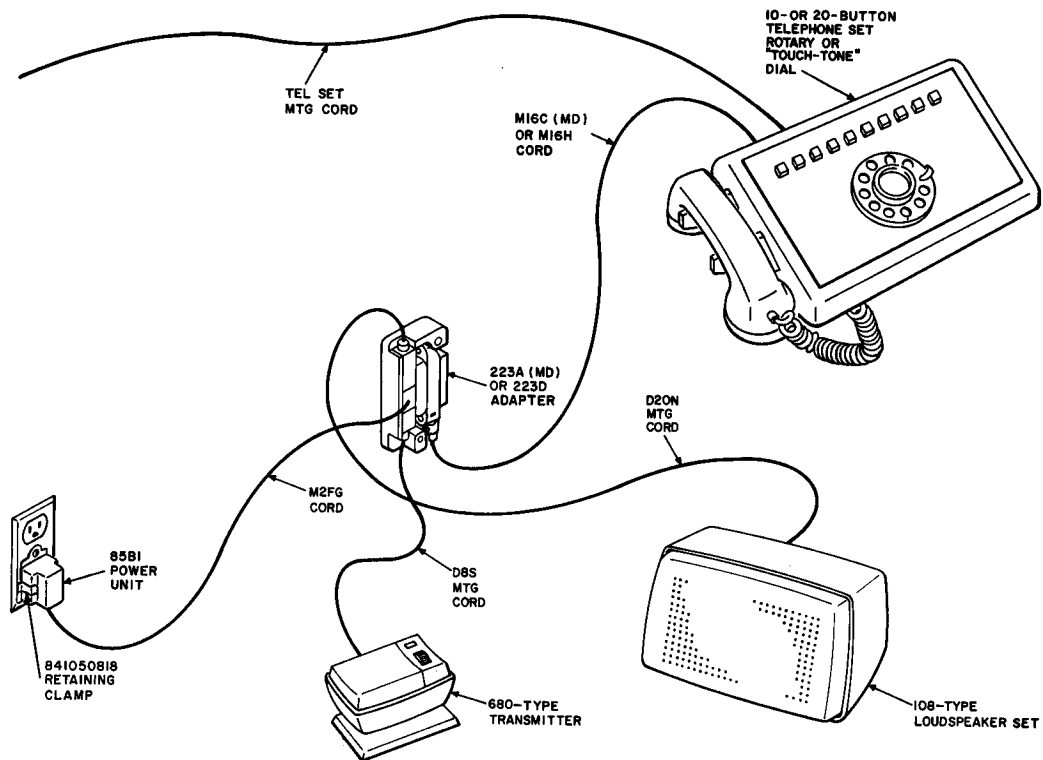

Fig. 1—4A Speakerphone System Arrangement, 10- or 20-Button Telephone Set
**2.07** Power can be provided by making connections as shown in Fig. 1 and 2.